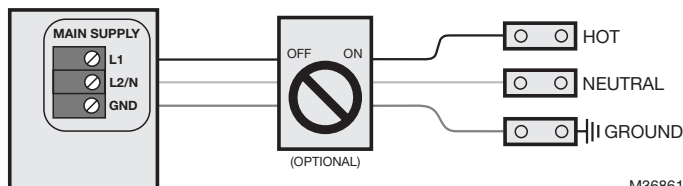
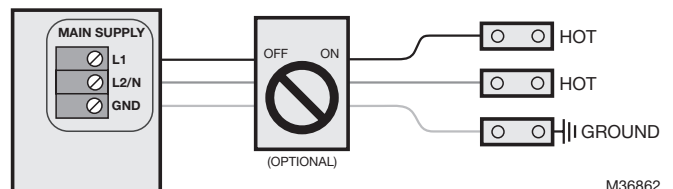

Fig. 7. 120 VAC (1 Phase) Primary power connection.
Fig. 8. 240 VAC (1 Phase) Primary power connection.
1. Install a disconnect switch between the humidifier and the circuit breaker as shown in Fig. 7 and Fig. 8 (optional).